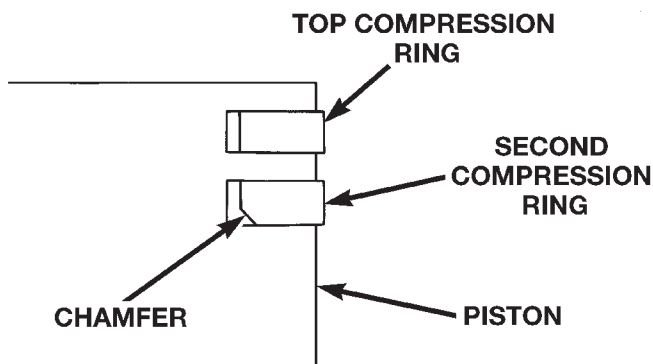

Fig. 11 Compression Ring Chamfer Location
(8) Using a ring installer, install the second compression ring with the chamfer facing down (Fig. 11) (Fig. 12).